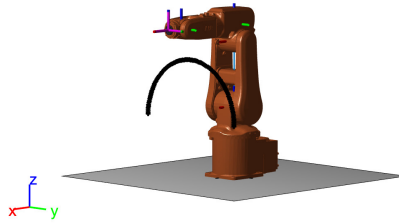

Figure 3: Desired semi-circle trajectory with robot in the home position.
- a. The end-effector trajectory is the top half of a circle located in the  $Y - Z$  plane. The circle has radius 0.25 and is centered at  $x = 0.25$ ,  $y = 0$ , and  $z = 0.25$  (see Fig. 3). First you will need to express the desired end-effector trajectory as a time varying vector:
To find the desired orientation note that in the MATLAB simulation the tool frame is parallel with the Global axis when the robot is at the home position (e.g.,  $\mathbf{q} = 0$ ), as shown in Fig. 3. You want the  $x$ -axis of the tool frame to be normal to  $\mathbf{r}(t)$ , or put another way, the  $z$ -axis of the tool frame should be tangent to  $\mathbf{r}(t)$ . To find the proper orientation, consider what rotations are need to move the end effector from is home position to the proper normal orientation. (*Hint: The desired orientation can be expressed as  $x$ - $y$ - $z$  Euler angles with  $\phi_x = \alpha$ ,  $\phi_y = 0$  and  $\phi_z = \frac{-\pi}{2}$ , where  $\alpha$  is the direction cosine of the vector tangent to the curve with the unit  $z$ -axis.*)